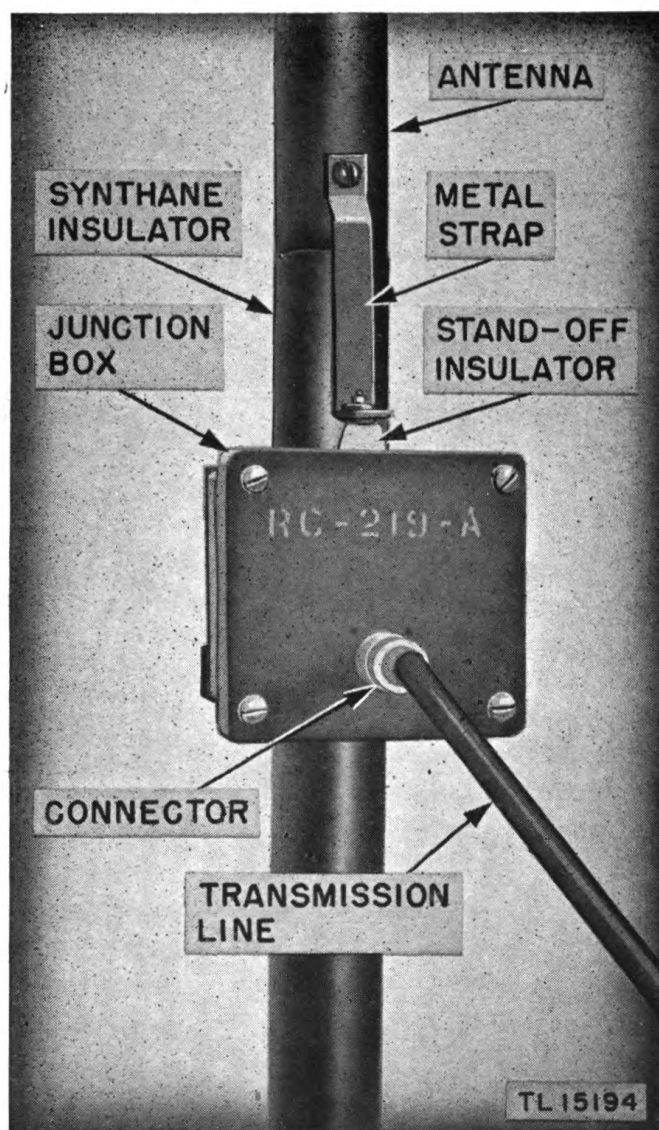

Figure 5. Antenna Equipment RC-219-A, junction box with one socket.
(3) above using a mast section (4857) with the single-socket junction box (fig. 5), and substituting the flat-top steel cap for the threaded steel cap.
b. **16½-FOOT VERTICAL ANTENNA.** This antenna is a vertical Marconi and functions similarly to the 33-foot vertical antenna. Its length causes it to be self-resonant at approximately 28.4 mc as a half-wave dipole antenna (high impedance at base) and at approximately 14.2 mc as a quarter-wave dipole antenna (low impedance at base). This antenna also has an antenna coupling coil to widen its frequency coverage. This coil is identical in design and function to the coupling coil of the 33-foot vertical antenna. It is located in a junction box on the mast below the synthane insulator. (See fig. 5.)